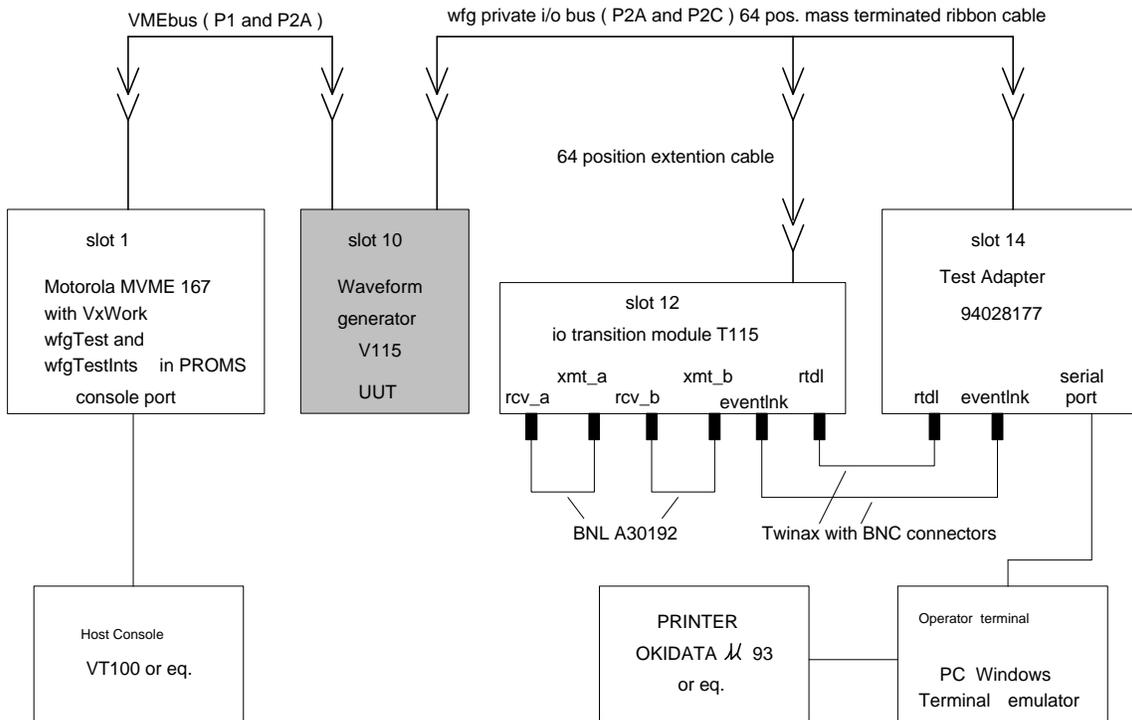

Figure 1
- 1 Setup Waveform Generator Test Station as shown in figure 1.
Install UUT in slot 10 as shown in figure 1.